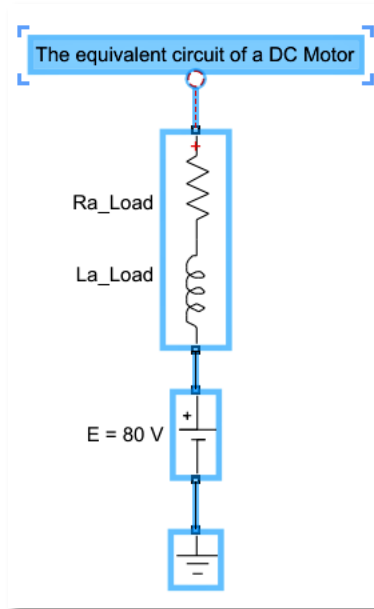

Fig. 3.2. The equivalent circuit of a DC motor.
- Replacing the resistive load with a DC motor represented by an equivalent circuit (Fig. 3.2) and considering the load current constant and ripple-free, draw the output voltage and the input current (I_s), indicating in the sketch when the thyristors are in conduction.